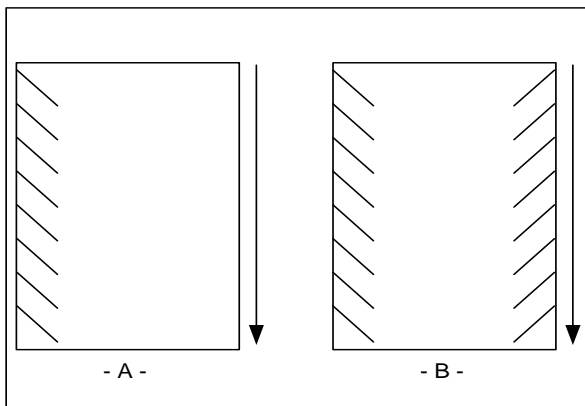

FIGURE 43
5. Angled waves in the output (Fig. 43 A&B)